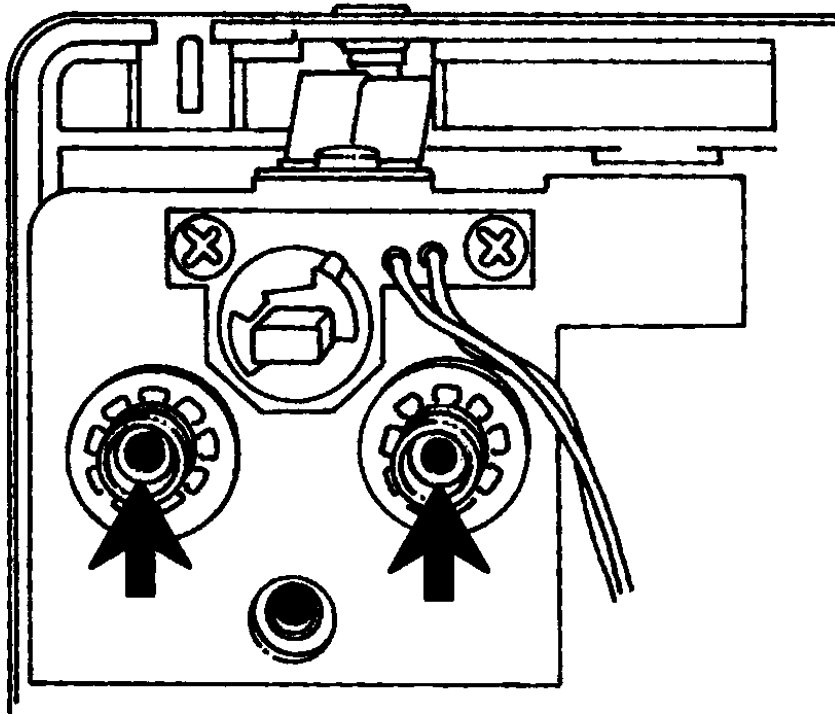

Figure 16 Disconnect Air Lines From Fittings on Back of Air Gauge
6. After bleeding the air system, disconnect the air lines from the fittings on the back of the air gauge. A double needle air pressure gauge is used with vehicles with air brakes (Figure 16).